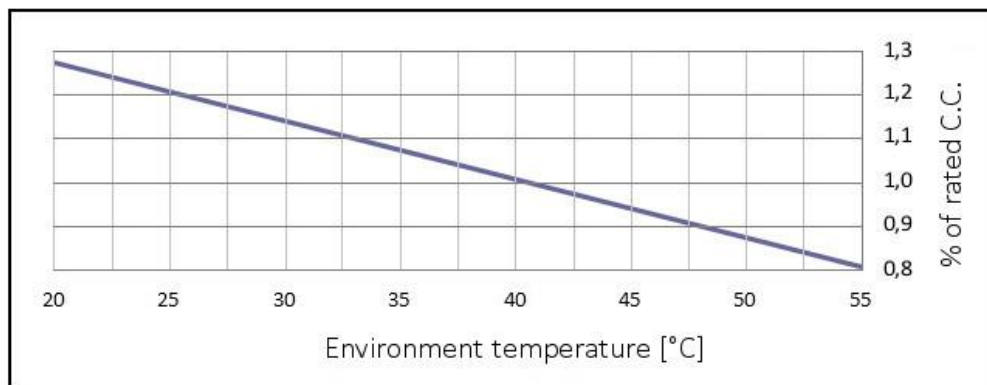

Fig. 7-Derating according to the temperature
- Operating temperature: 0 ÷ 40°C (see derating curve fig.7)